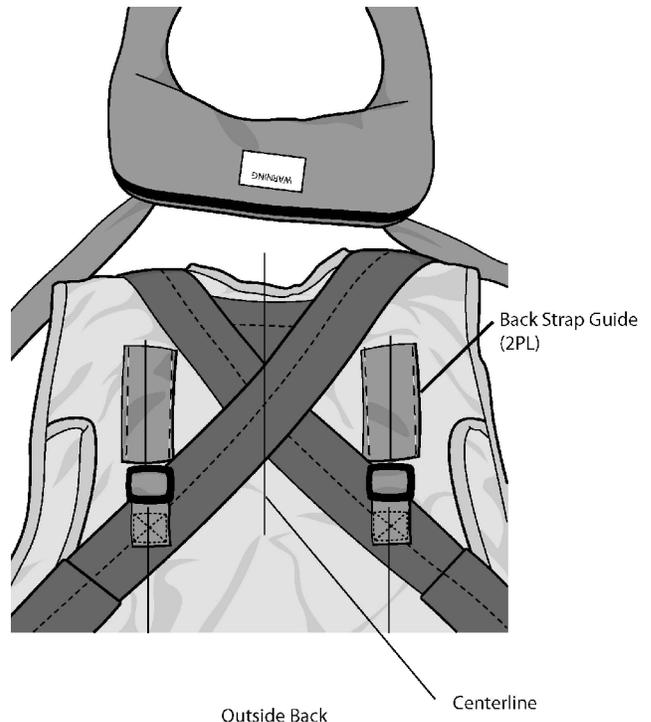

Figure 14. LPU-36 Layout
(1) Align the LPU-36 with the top of the PCU-26 harness with harness front down and collar label up (Figure 14).